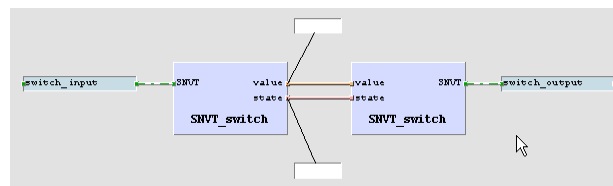

Figure 20: Online Test fields
13. Place the fields above and below the drawing as shown in Figure 20, then press the **Save** button to save your changes.